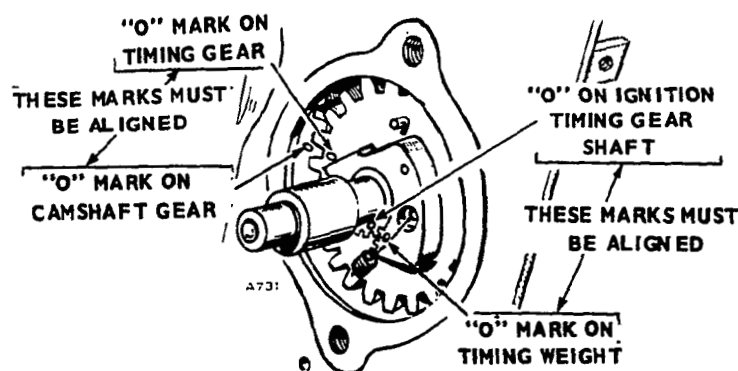

FIGURE 58. TIMING MARKS
1. Install springs on weight assemblies. Install cam on the gear shaft, being sure to align timing marks (Figure 58), and install the cam spring.
2. Install spacer and thrust washer on gear shaft assembly, and install assembly into the gearcase. Match timing marks on timing gear and camshaft gear (Figure 58).